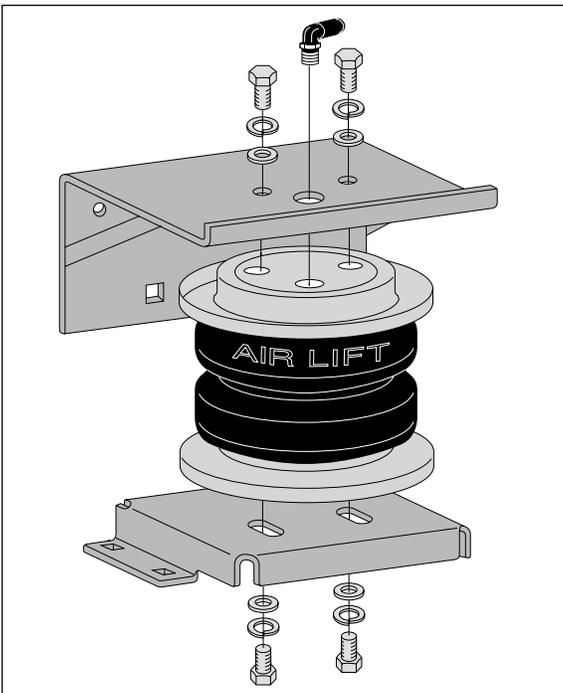
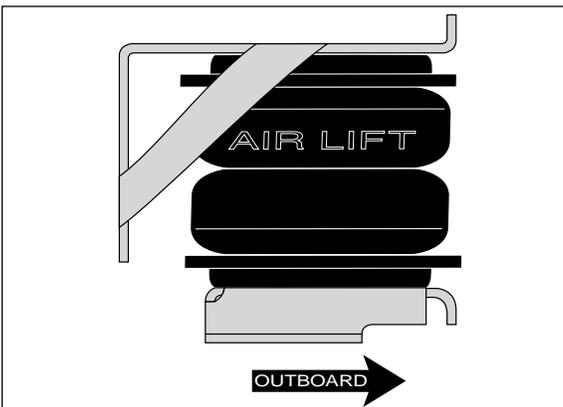

Figure 2
Figure 3
1. Set a roll plate (D) on both ends of the air spring (A). The radiused (rounded) edge of the roll plate will be towards the air spring, so that the air spring is seated in both roll plates (Figure 2).
2. Install 90° elbow fitting (E) to the top of the air spring. Tighten finger tight plus 1 and 1/2 turns. Be careful to only tighten on the metal hex nut. Do not over tighten.
3. Set the upper bracket (B) over the top of the air spring. Attach the upper bracket using two 3/8" bolts (F), two lock washers (G), and two flat washers (H). Tighten securely (Figure 2).
4. Set the lower bracket (C) on to the bottom of the air spring. NOTE: The bracket will be offset to the outside of the vehicle (Figure 3). Attach using two 3/8" bolts (F), two lock washers (G), and two flat washers (H). Leave loose at this time for later adjustment (Figure 2).